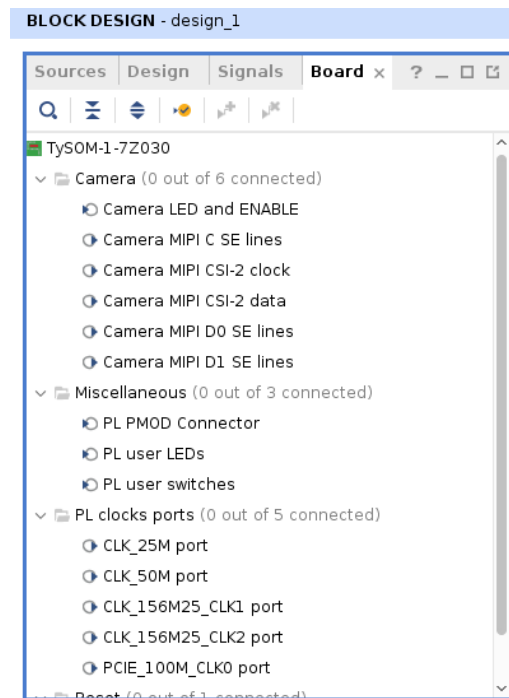

Figure 8: Window with board components.
5. Add customized board components to the design canvas. The components available for selected board are listed in the window **Board**, as shown in the Figure 8.